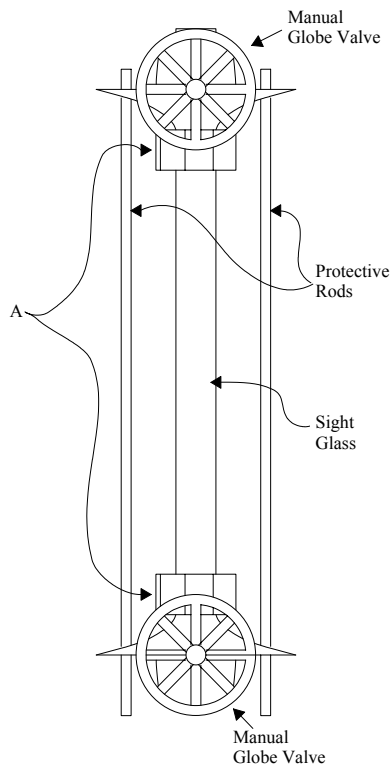

Figure 5.5
Figure 5.5 below shows the front view of the sight glass. Refer to this figure when following the directions to disassemble the sight glass and clean it.
3. Remove the two nuts “A” in Figure 5.5 and pull them over the sight glass.
Make sure that the two Manual Globe Valves (see figure 5.5) are always OPEN during normal operation of the machine.